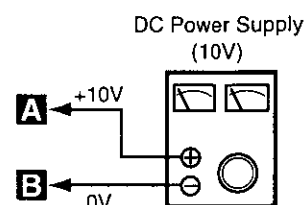

Fig. 4
4. Connect a DC Power Supply to **A** and **B**, then adjust the output to 10V. (Fig.4)